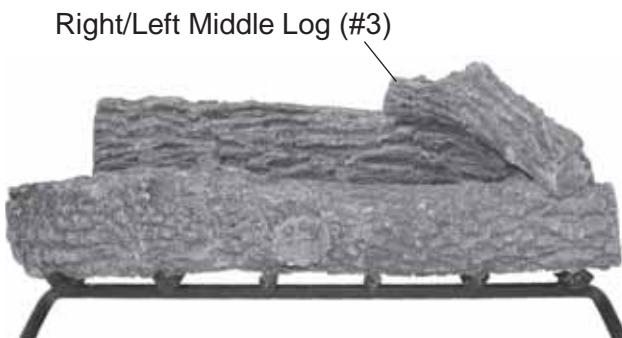

Figure 61 - Positioning Right/Left Middle Log (#3)
3. Position Right/Left Middle Log #3 on top right of Log #1 and Log #2. Make sure back of Log #3 fits in right groove in top of Log #2. See Figure 61.